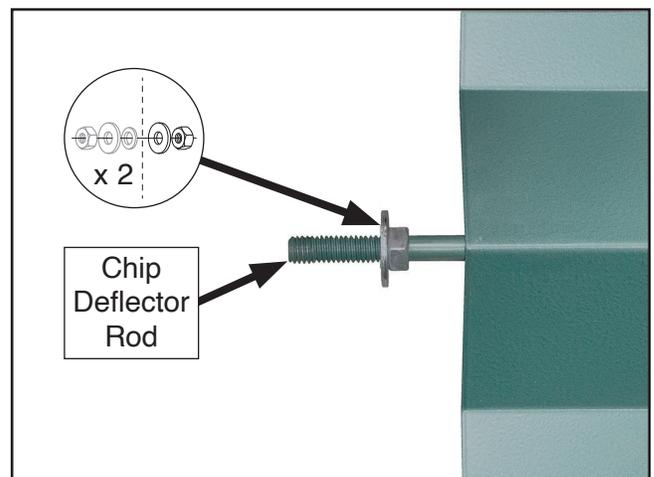

Figure 41. Inside hex nut threaded all the way back on chip deflector rod (front end shown).
28. Fully thread inside hex nuts on chip deflector rod and push remaining flat washers flush against hex nuts (see **Figure 41**).